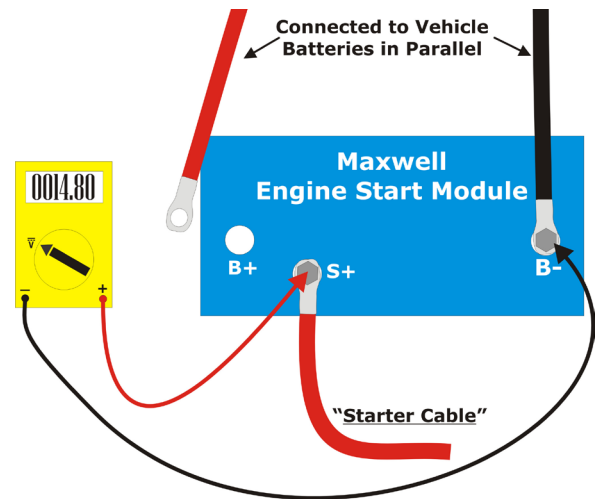

Figure 6
1. Once the ESM is fully charged, remove the B+ cable from the ESM. Please use caution not to short this cable to any ground or the vehicle frame (see Figure 6).
3. Connect the multimeter red (+) lead to the ESM S+ terminal, and black (-) lead to the ESM B- terminal (see Figure 6). Monitor the voltage reading for about two minutes. The reading should remain relatively steady indicating that the Starter Cable is properly isolated from the vehicle electrical system.